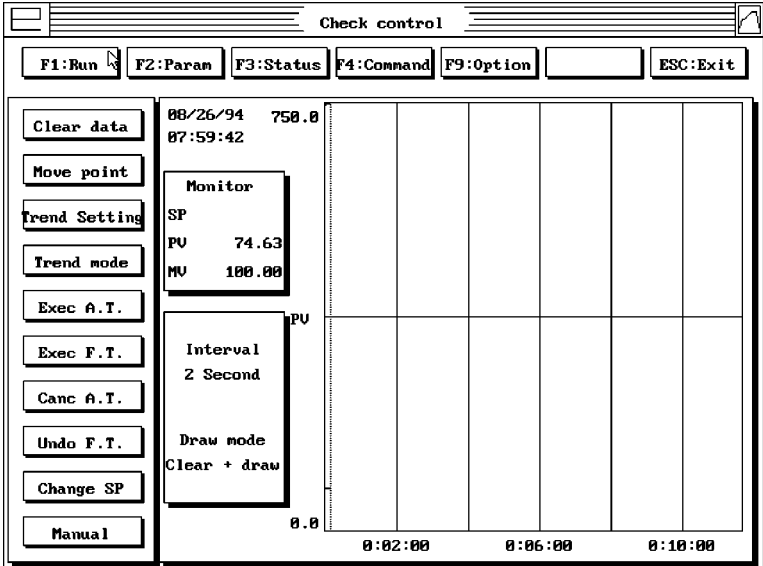

Figure 12
2. Select **F1:Run** from the **Check control** menu (Figure 12).